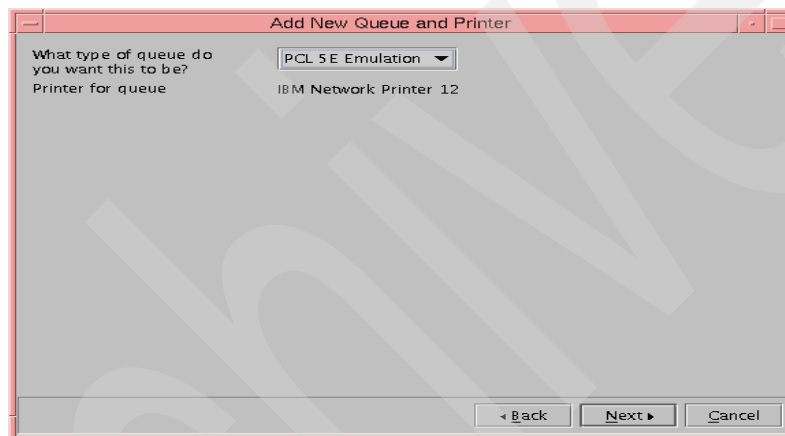

Figure 86. IBM Network Printer data stream
- We selected the data stream for which we were creating this queue from the list and clicked **Next**, as shown in Figure 86.